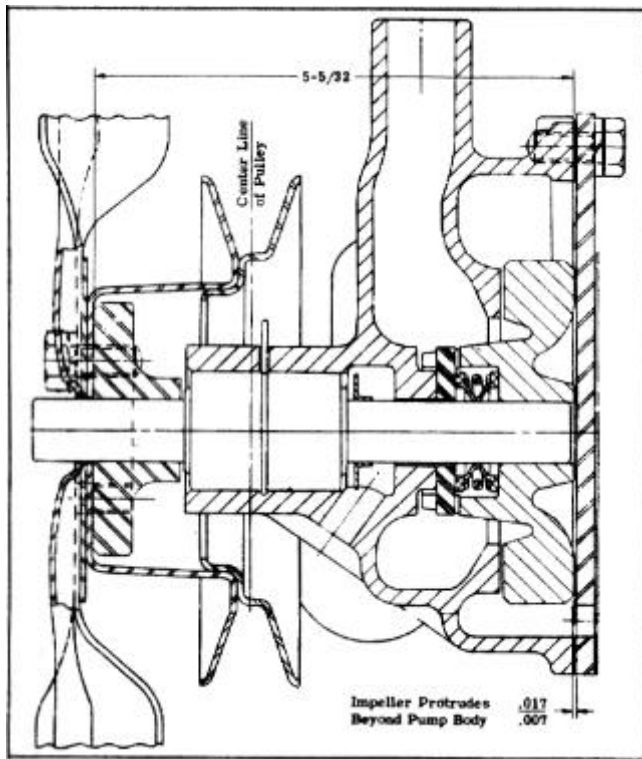

FIGURE 2
The water pump features a permanently lubricated ball bearing (18) Figure 2 for the pump shaft and a non-adjustable packing (13). A permanent seal, which makes re-packing unnecessary, consists of a graphite washer (14) adjacent to the impeller (12), backed with a neoprene seal (13) and brass spring and retainer (8) for maintaining constant contact on these two units. The graphite washer (14) is prevented from turning in the impeller (12) and housing by means of four ears which are retained by four corresponding slots in the impeller. The neoprene seal stops any fluid which might pass between the graphite washer and impeller.